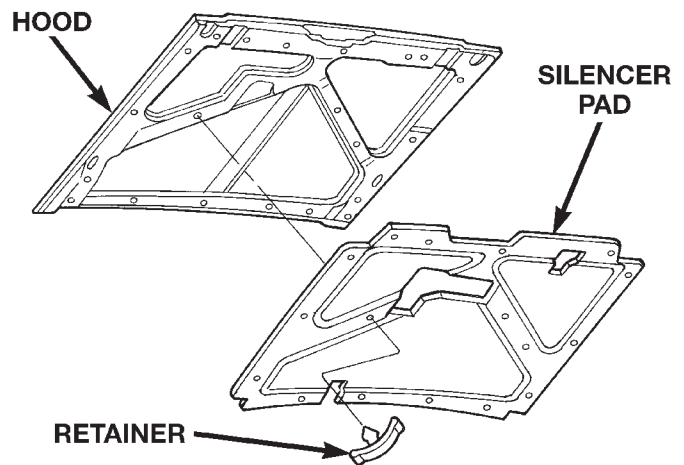

Fig. 9 Hood Silencer Pad
- (1) Open and support hood.
- (2) Remove the hood latch release bellcrank.
- (3) Remove the clips attaching the latch connecting rod to the hood inner panel.
- (4) Remove the retainers attaching the hood silencer pad to the inner hood panel (Fig. 9).
- (5) Separate the hood silencer pad from the hood.